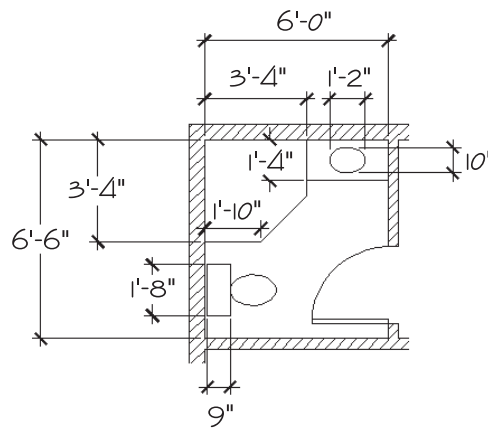

FIGURE 5.26: The bathroom fixtures with dimensions
The bathroom has three fixtures: a sink, a shower, and a toilet (see Figure 5.26). In drawing these fixtures, you will be using a few Object Snaps over and over again. You can set one or more of the osnap choices to be continually running until you turn them off. That way, you won't have to select them each time.
1. With the Rectangle command, draw the toilet tank a few inches to the right of the wall, not touching any lines. (See Figure 5.26, shown earlier, for the dimensions.) Then offset the left wall line 1" to the right to make a guideline. Use the shower as a cutting edge, and trim this guideline down to the shower (see Figure 5.29a).